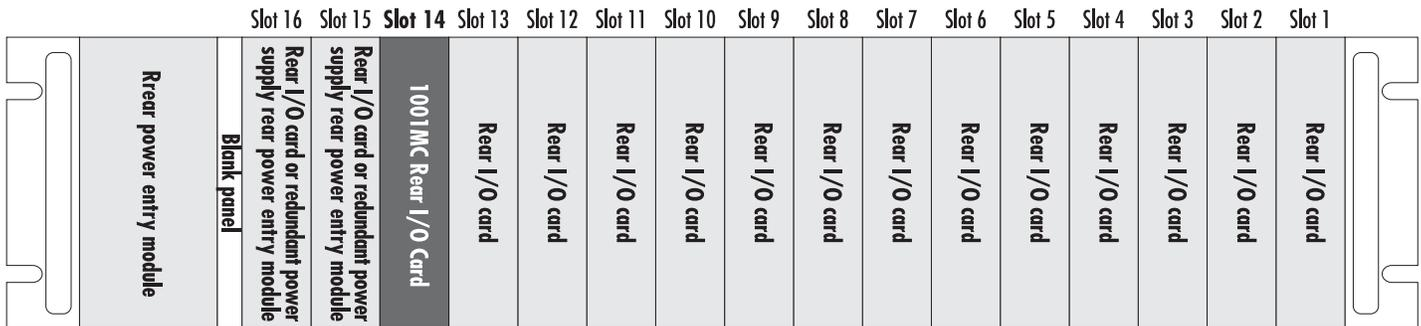

Figure 5. Rack chassis slot layout (rear view)
1. Slide the rear I/O card into rear chassis slot 14 (see figure 5) along the metal guide rails.